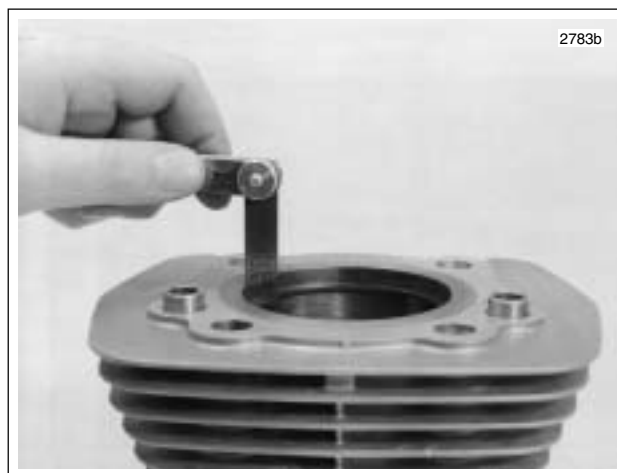

Figure 3-76. Measuring Ring End Gap
1. See Figure 3-76. Insert the **new** ring into the cylinder, square it in the bore using the top of the piston and measure the ring end gap with a feeler gauge. Do not use the ring if the end gap does not fall within the following specifications. Refer to Table 3-27.